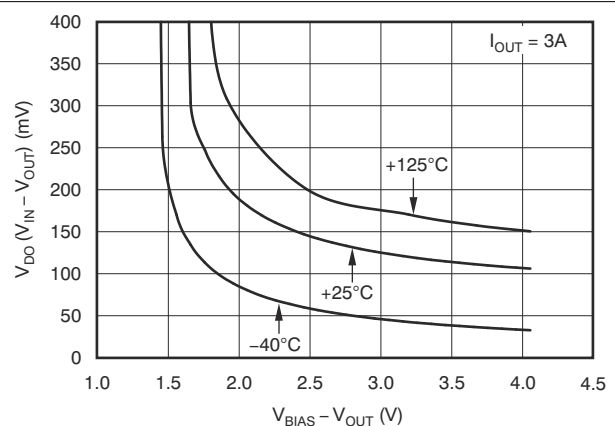

Figure 6-6. V_{BIAS} Dropout Voltage vs $V_{BIAS} - V_{OUT}$ and Temperature (T_J)
- (1) Adjustable devices tested at 0.8 V; resistor tolerance is not taken into account.
- (2) Dropout is defined as the voltage from V_{IN} to V_{OUT} when V_{OUT} is 3% below nominal.
- (3) 3.25 V is a test condition of this device and can be adjusted by referring to Figure 6-6.